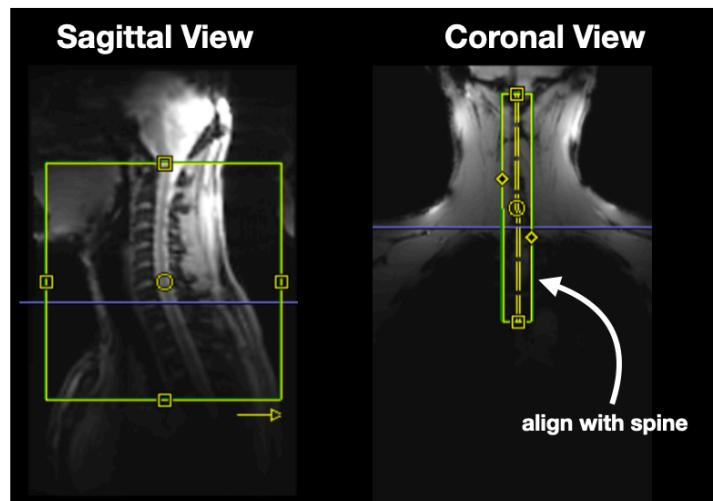

Figure 7. Positioning of Medium FOV for DREAM scans.
- Position the Field of View (FOV) according to Figure 7. The center of the FOV should roughly correspond to where you put the isocentre. If the FOV in the FH direction for the imported protocol is too large for your coil, use the largest FOV possible in the FH direction for your coil.